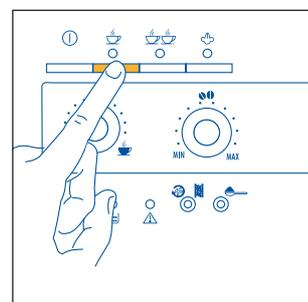
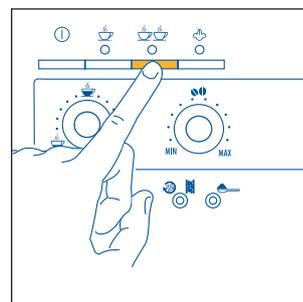
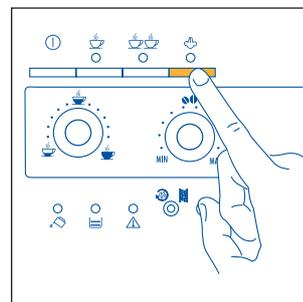
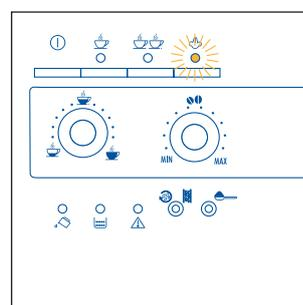

Fig. 12
Fig. 13
Fig.21
Fig.22
- 5) Press the  button (Fig. 12) to make one cup of coffee or the  button (Fig. 13) to make 2 coffees. At this point the machine grinds the beans, runs a short pre-infusion cycle, a pause and then completes the delivery.
**NOTE 4:** while the machine is making the coffee, the delivery can be stopped at any time by pressing the ☺ button (Fig. 12) or ☺☺ button (Fig. 13), as previously selected.
**NOTE 5:** as soon as delivery is complete, to increase the quantity of coffee, simply press and hold the ☺ button (Fig. 12) or ☺☺ button (Fig. 13), as previously selected, until reaching the desired quantity (this operation must be performed within 3 seconds from the end of the delivery of the coffee from the spouts).
- Then press the steam button (Fig. 21). The ☁ light (Fig. 22) starts flashing to indicate that the machine is heating up.
- Once having reached the desired temperature, stop the steam by turning the steam knob clockwise until it stops (Fig. 6) and then press the steam button (Fig. 21) to deactivate the steam function ☁.
**NOTE 1:** : immediately after having prepared the cappuccino, once having pressed the steam button ☁ (Fig. 21) to deactivate the function, when pressing the ☕ (Fig. 12) or ☕☕ button (Fig. 13) to make coffee again, the machine is too hot to make coffee (the green ☕ and ☕☕ lights flash to indicate that the temperature is not suitable); simply wait around ten minutes for the machine to cool down a little.